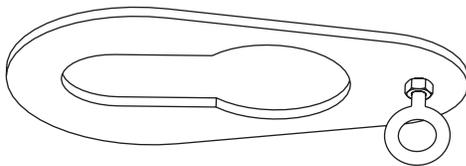

Figure 4: Kingpin adapter
1. Place the kingpin adapter (Figure 4) onto the kingpin. Make sure the kingpin adapter eyebolt is facing down and pointing toward the rear of the trailer.